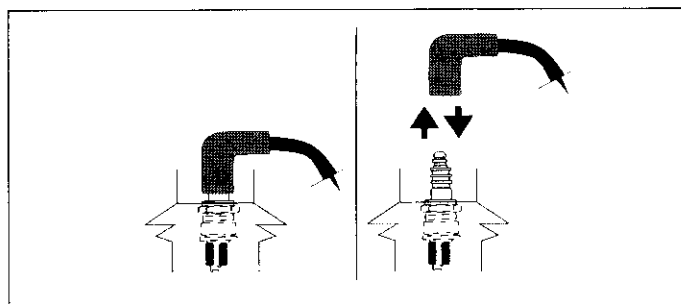

Figure 31. Disconnecting/Connecting Spark Plug
1. Disconnect spark plug wire and keep it away from spark plug. See "G. Avoid Accidental Starts" instructions on page 2. See Figure 31.